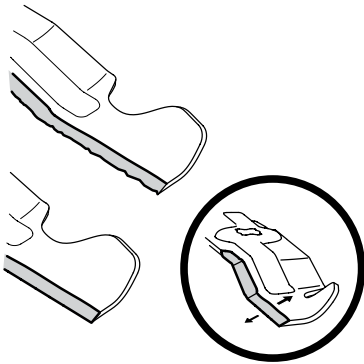

Figure 4-18
4. To properly sharpen the cutting blades, remove equal amounts of metal from both ends of the blades along the cutting edges, parallel to the trailing edge, at a 25°- to 30° angle. Always grind each cutting blade edge equally to maintain proper blade balance. See Figure 4-18.